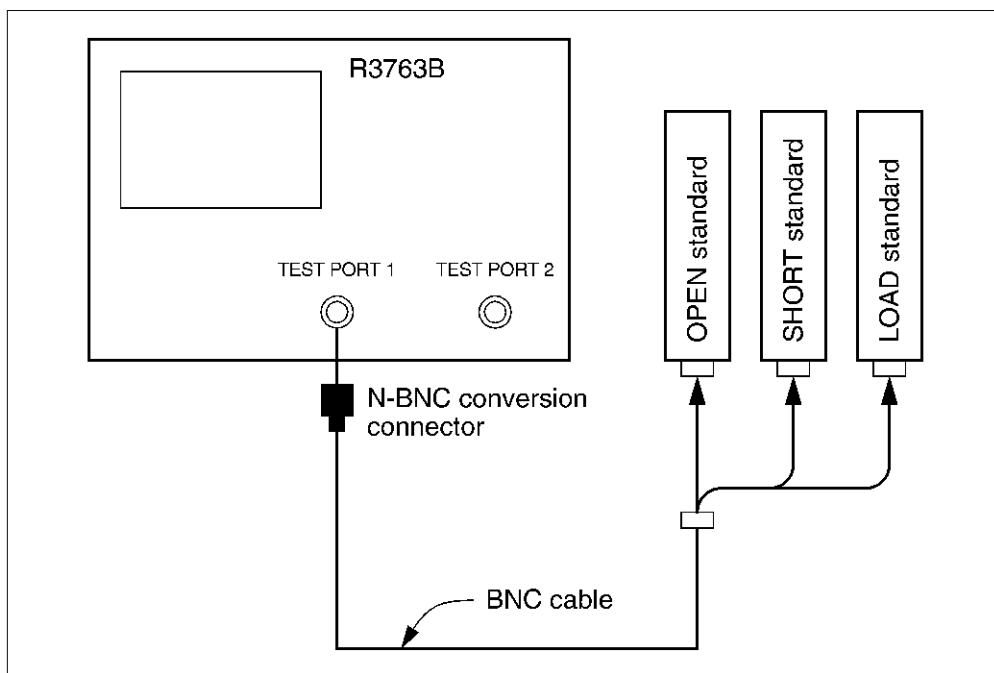

Figure 6-5 Connection for Measuring Return Loss
- ① In order to measure the input return loss, connect the network analyzer, R3763B as shown in Figure 6-5.